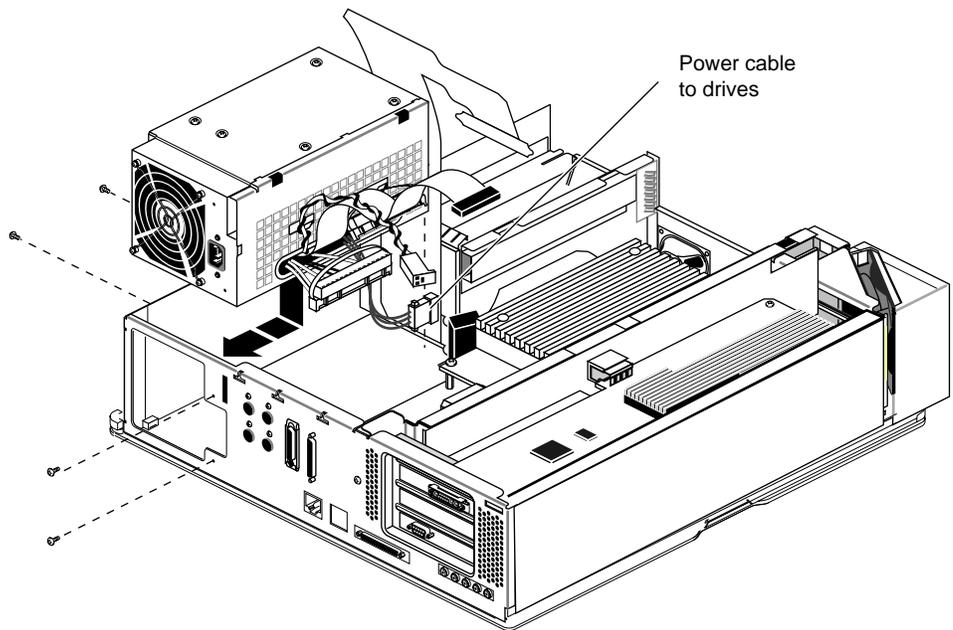

Figure 2-17 Installing the Power Supply
3. Install the new power supply, as shown in Figure 2-17.